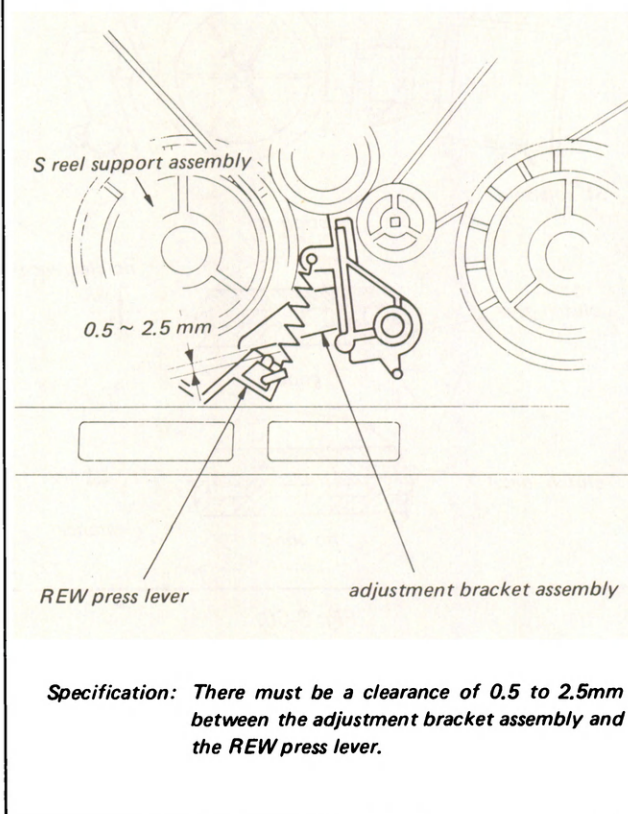
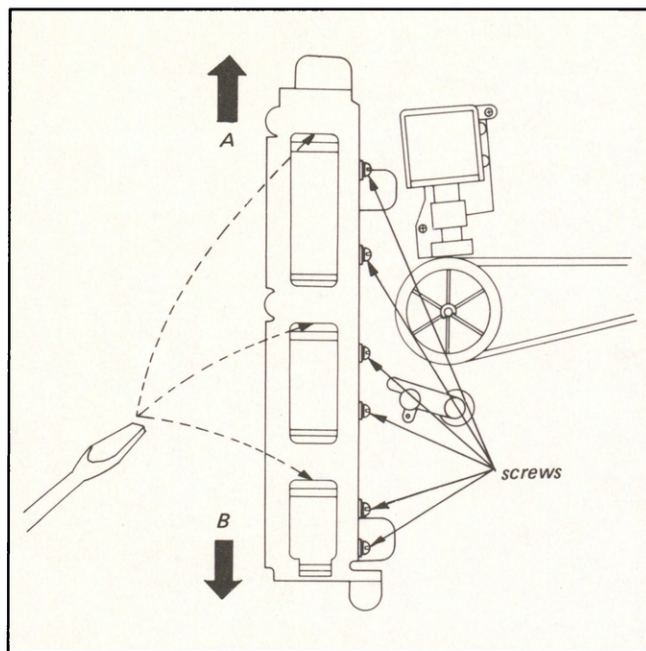

Fig. 3-63.
Fig. 3-64.
- Check that the each stroke of the PLAY, FF and REW solenoids satisfies the specification shown in Fig. 3-63. If the specification is not satisfied, perform Step 3 and the following steps.
- Loosen the screw fixing the solenoid required to be adjusted as shown in Fig. 3-64. Tighten the screw temporary while pushing up the solenoid in the direction shown by arrow A.
- Press the mode button corresponding to the solenoid to be adjusted, insert a flat-head screwdriver into the position shown in Fig. 3-64, and lower the solenoid gradually in the direction shown by arrow B until the specification shown in Fig. 3-63 is satisfied.